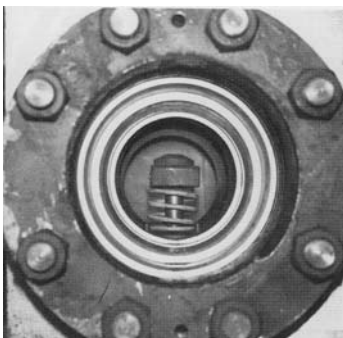

Figure 4-8 Installing suction valve guide
3. Insert valve guide lengthwise (with one of the curved surfaces facing the piston) until the center of the guide is over the valve stem and spring (Figure 4-8)